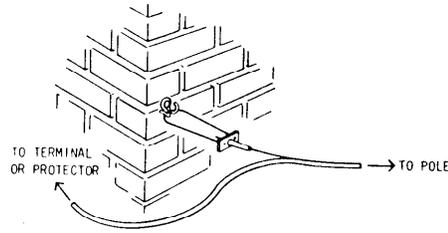

Fig. 9 - Multiple Drop Wire Installed at First Building Attachment
- (1) Attach the multiple pair ASW to the building with the hardware described in Table A.
- (2) At the first attachment:
- (3) Crush the PVC jacket of the support wire between the handles of the diagonal pliers and remove the insulation.
- (4) Place a black plastic cable tie around the jacketed pairs and support wire at the point of separation to prevent further splitting of the web.
- (5) Install a No. 5056B wirewise (Fig. 2) or a DE-2506 dead end (Fig. 3) on the bare support wire and over drop wire hook (Fig. 9).
- (6) Toward the protector, slit the support wire for approximately 2 or 3 feet and remove that portion of support wire. Exercise caution not to damage the PVC jacket.